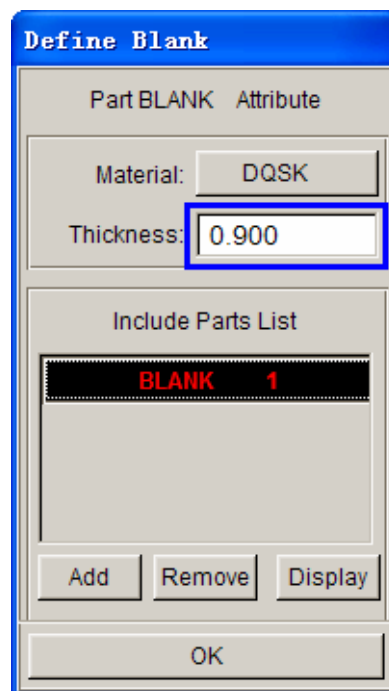

Figure 3.20: Define Blank dialog box
- 8) Then select the edit window of Thickness, define a sheet blank thickness is 0.9mm, as shown in the following figure 3.20.